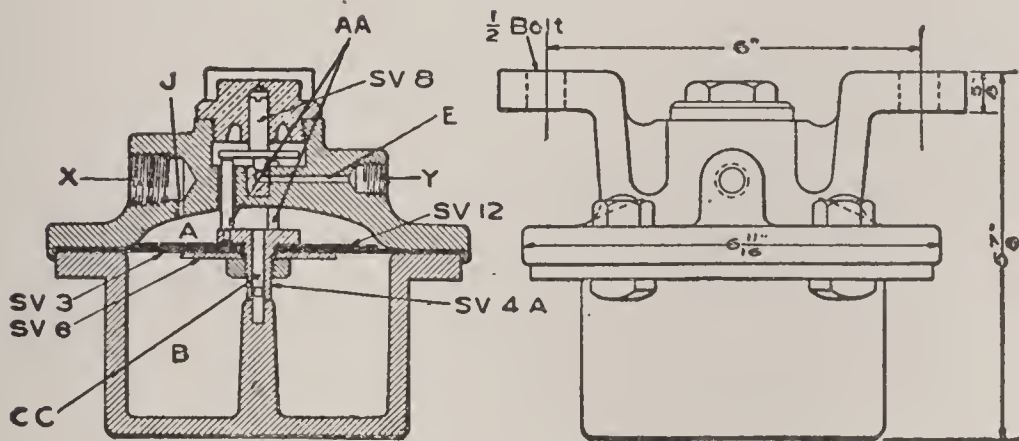

Fig. 37.
**Construction.** The signal valve, as shown in Fig. 37 is generally located under the footboard of the cab. The signal pipe is connected to it at X, while a pipe leads from Y to the signal whistle. The valve body is divided into two chambers, A and B, by a rubber diaphragm SV 3, which operates diaphragm stem SV-4A. This rubber diaphragm has two disks, the lower one SV 6 of brass, and the upper one SV 12 of sheet iron, and through these disks is screwed a brass plug,